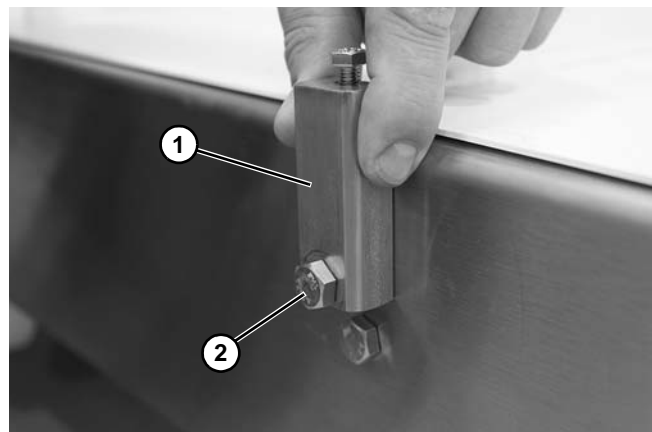

Figure 33
- Assemble the mounting block (**Figure 33, item 1**) to the conveyor side with the screw (**Figure 33, item 2**) provided.